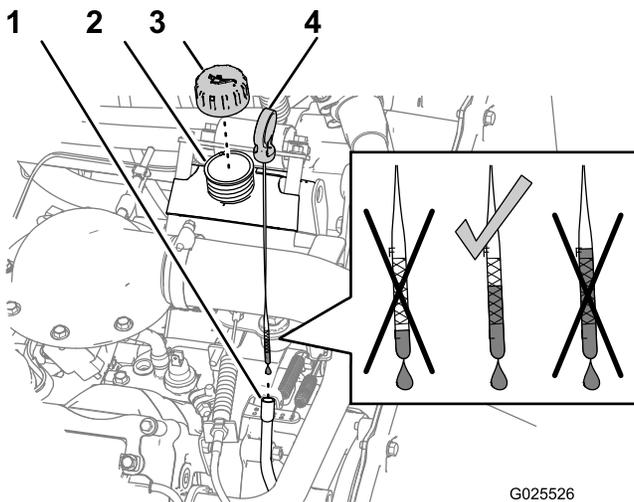

Figure 21
1. Remove the dipstick (Figure 21) and wipe it with a clean rag.
3. Remove dipstick and check the level of the oil (Figure 21).
4. If the oil level is low, remove the filler cap (Figure 21) and add enough oil to raise the level to the Full mark on the dipstick.
5. Install the filler cap onto the filler neck (Figure 21).
6. Firmly install the dipstick into the dipstick tube (Figure 21).